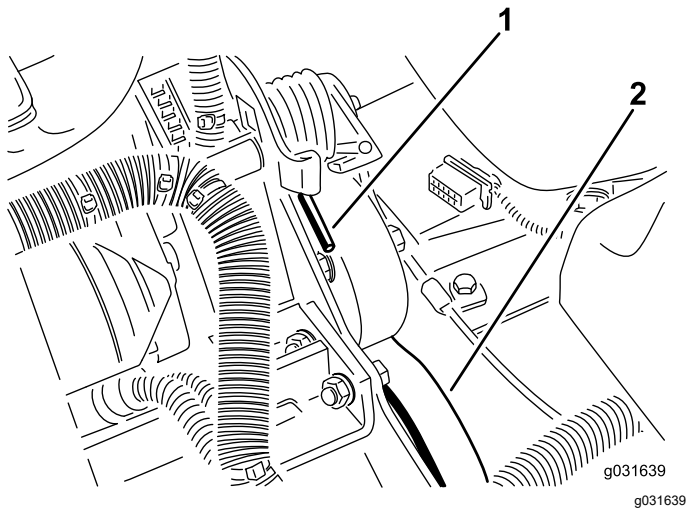

Figure 62
2. Push down and forward on the spring end to unhook it from the bracket and release tension on the spring (Figure 62).